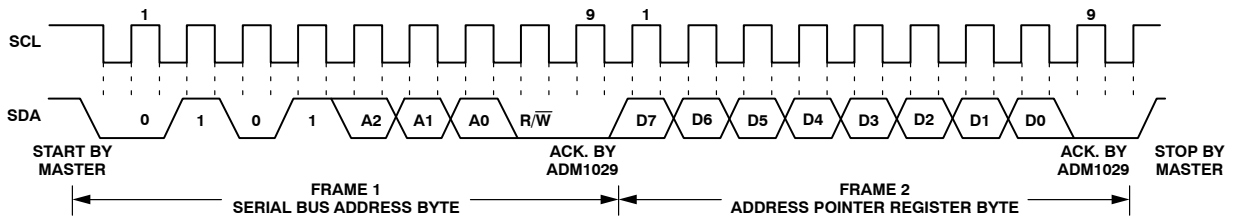

Figure 19. Writing to the Address Pointer Register Only
1. If the ADM1029's Address Pointer Register value is unknown or not the desired value, it is first necessary to set it to the correct value before data can be read from the desired data register. This is done by performing a write to the ADM1029 as before, but only the data byte containing the register address is sent, as data is not to be written to the register. This is shown in Figure 19.
2. If the Address Pointer Register is known to be already at the desired address, data can be read from the corresponding data register without first writing to the Address Pointer Register, so Figure 19 can be omitted.